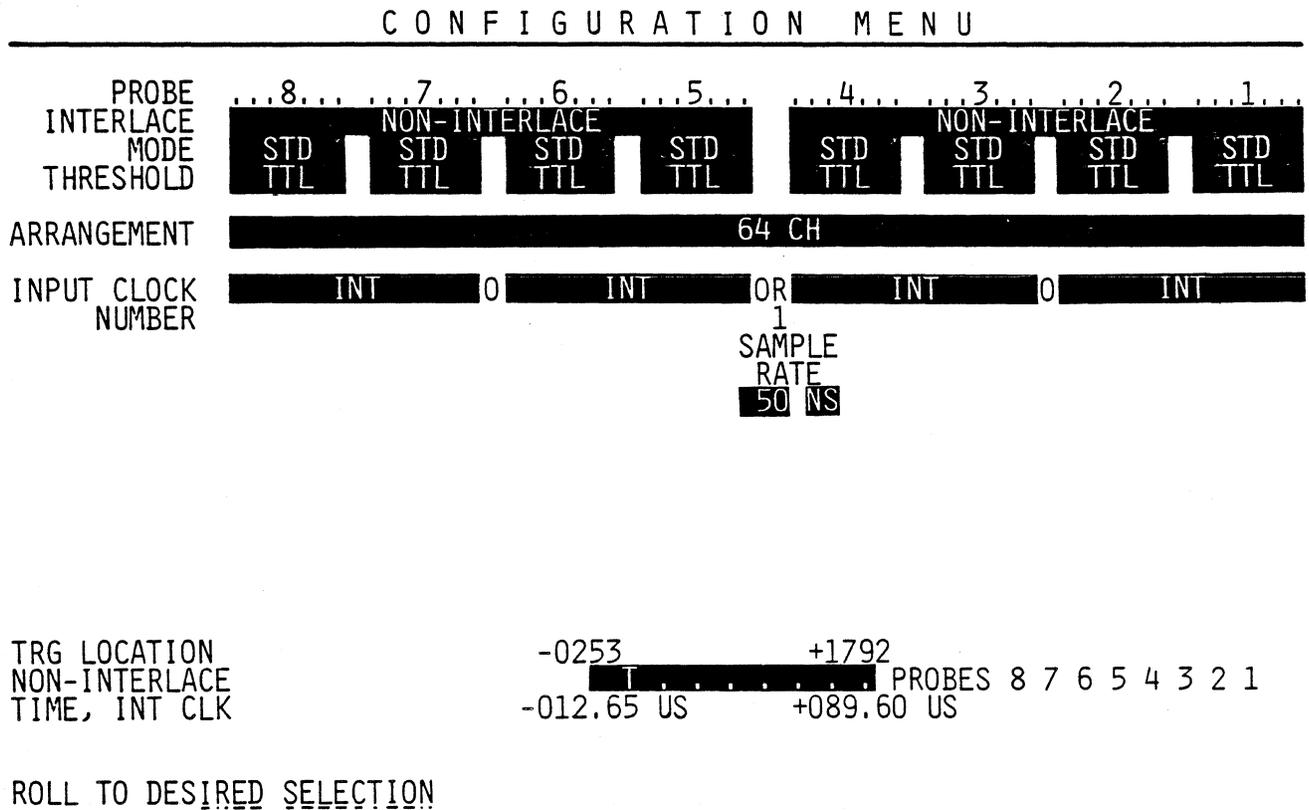

Figure 3-3 Configuration Menu
5. Next, the menu shown in Figure 3-3, Configuration Menu will appear.